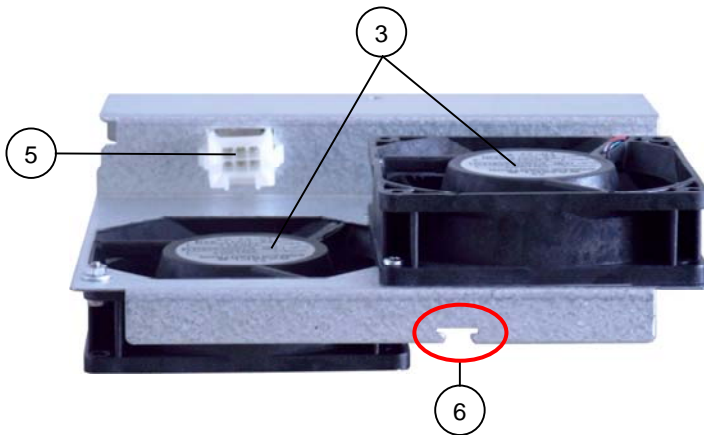

Fig. 24b: Bottom view of the fan slide-in module
3. Replace the fan slide-in module with a new functional module. Push the fan slide-in module carefully into the fan case socket connector, by aligning the centering angle (*fig. 24c, pos. 8*) to the centering slot (*fig. 24b, pos. 6*).